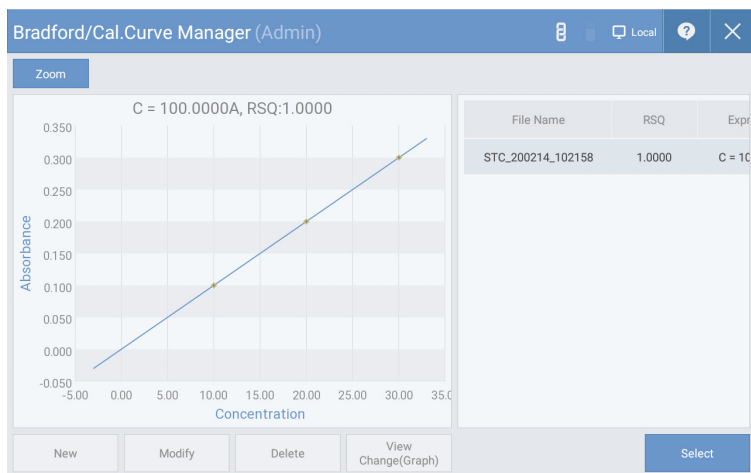

Fig. 3.2
1. Select the standard curve to use from [Fig. 3.2]. * Refer to “How to Create Standard Curve” if there is no standard curve.
1. Click the “Create” button shown in [Fig. 3.2] to change to standard curve mode.